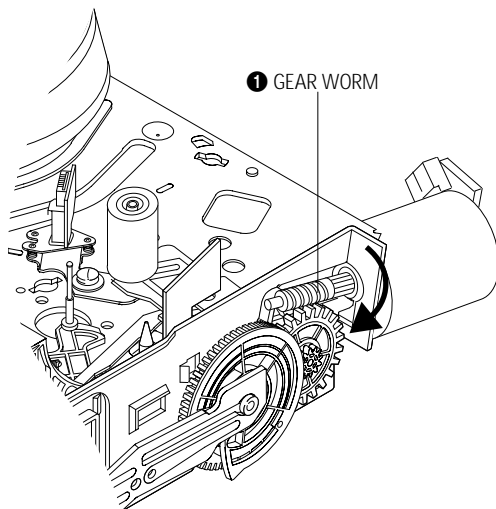

Fig. 2
- 1) Turn the Gear Worm ❶ clockwise in the direction of arrow with screw driver. (See Fig. 2)
- 3) Rotate Gear Worm ❸ clockwise using screw driver again up to the state of eject mode and then pick out the tape. (Refer to Fig. 2)